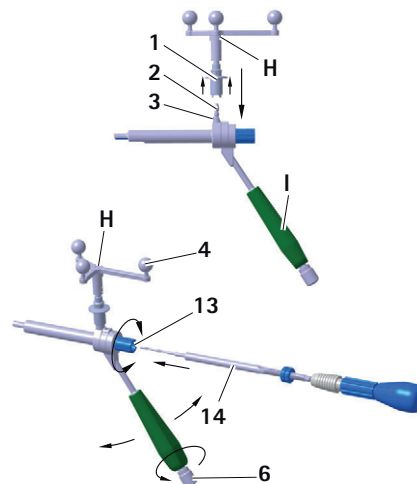

Fig. 10 Mounting the Aesculap star unit on the S⁴C guide sleeve for smooth-shaft screws.
- To ensure that the camera has an unrestricted view of the reflective marker spheres, loosen knob 6 on the S⁴C handle of the S⁴C guide sleeve I and rotate Aesculap star unit H to the desired position, see Fig. 10.